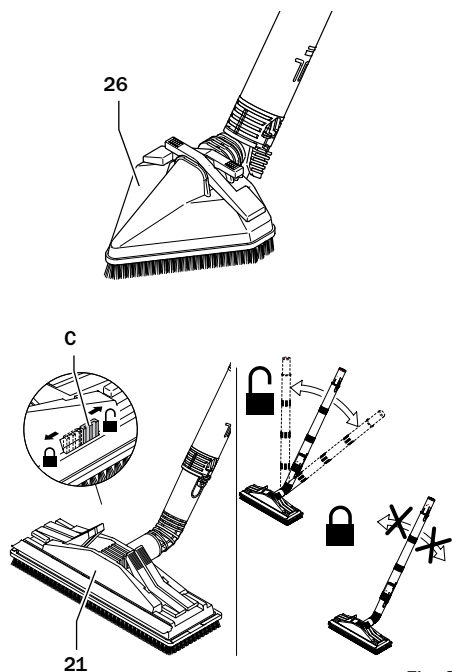

Fig. 6
The square brush (21) has a small lever C which lets you turn the handle as shown in fig. 6: